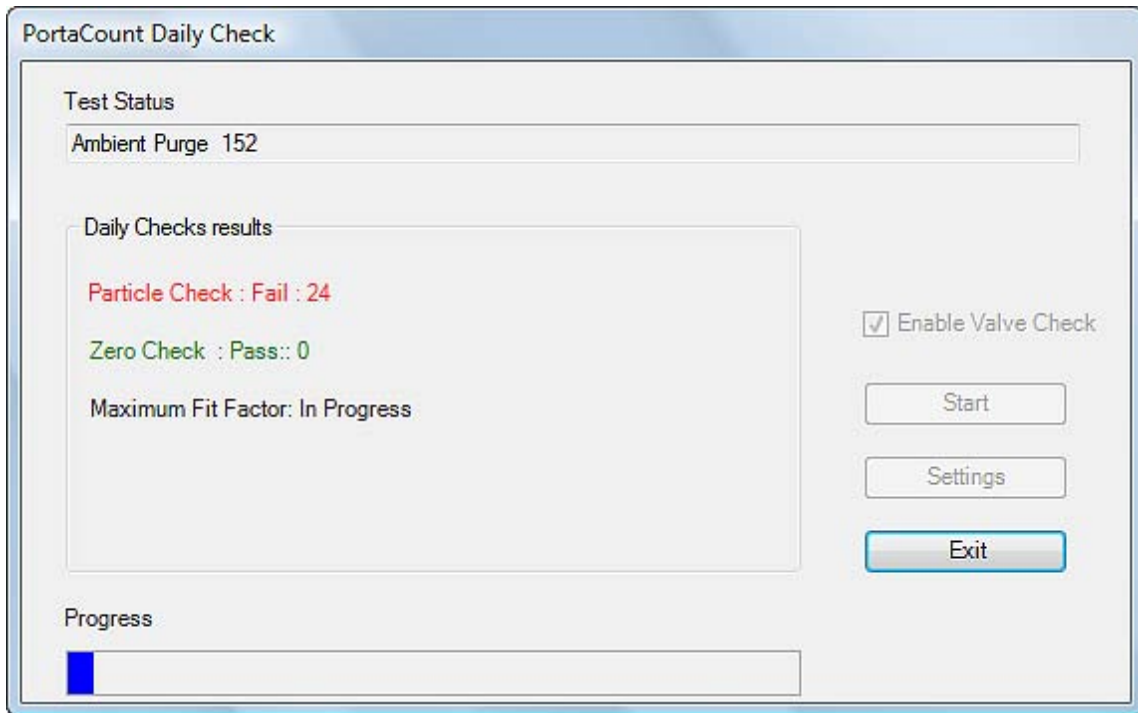

Figure 17. Daily Checks Dialog
1. Select **PortaCount** | **Daily Checks** or . The PORTACOUNT Daily Checks dialog box appears (Figure 17).